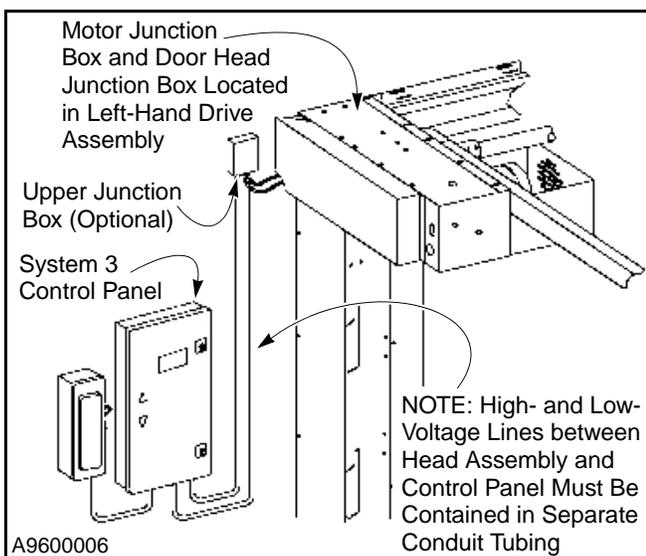

Figure 77
1. Route the drive motor/motor brake power cable, leading from the motor junction box, to the control panel. (See Figure 77.)